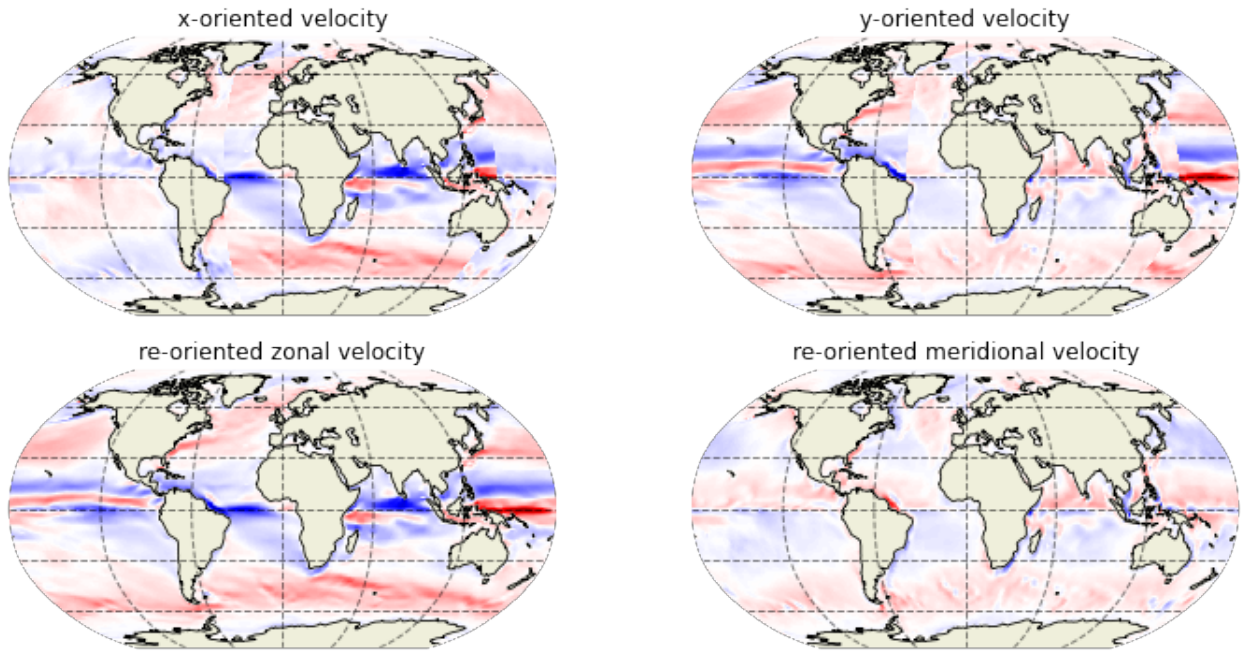

Figure 2: Monthly mean velocity fields for January 1992 before (top row, native LLC90) and after (bottom row) reorientation.
Comparing the input and output (Figure 2), we see that simply plotting the native model output onto a standard map results in undesirable behaviour for fields such as velocity, but that this can be “corrected” using appropriate routines. Code to plot Figure (2):